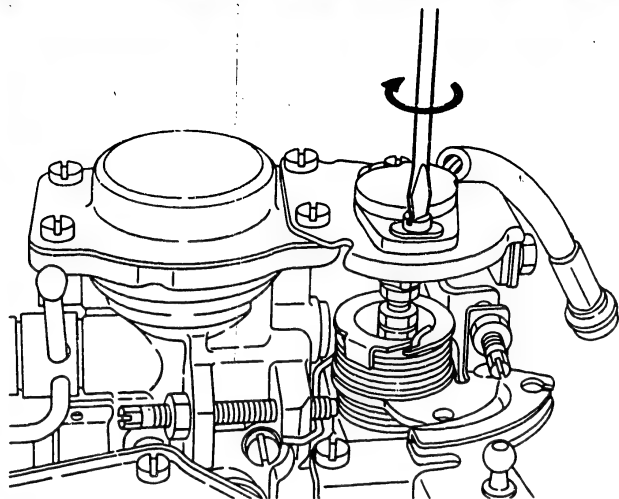

Fig. 215 Temporarily installing the potentiometer
1. Temporarily install the adjusting bolt (310/5), nut (310/6) and potentiometer (310) without the joint (310/7). (Fig. 215)